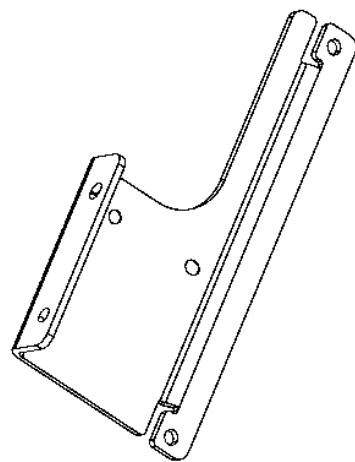

Figure 9. Straight Extender
- ▶ NVPN: 682-00003-5555-007 – Straight extender (Figure 9)